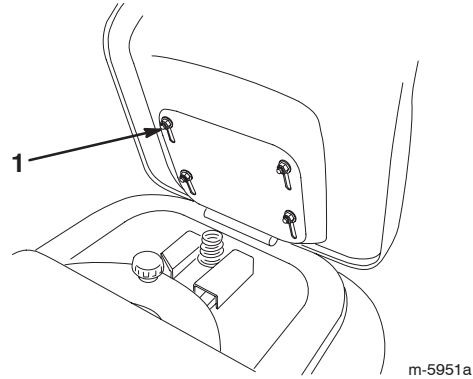

Figure 3
1. Raise the seat and loosen the 4 bolts (Fig. 3).